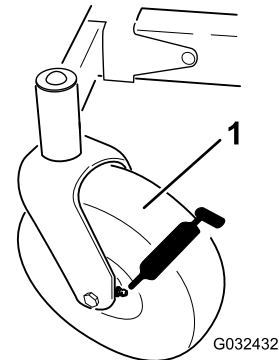

Figure 30
3. Clean the grease fittings (**Figure 30**) with a rag.
4. Connect a grease gun to each fitting (**Figure 30**).